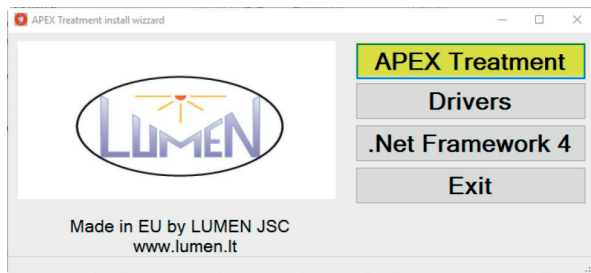
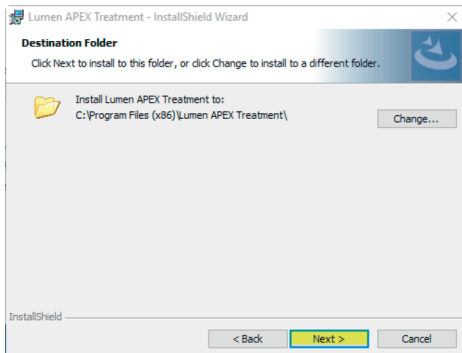

Fig. 9
Fig. 10
2. Click the **Lumen APEX Treatment** button on the installation wizard menu (Fig. 9). This will run the ApexSetup.exe file and start the installation process (Fig. 10). Approximately 100 MB free space of hard disk is required. Windows 7 or higher OS version is applicable.